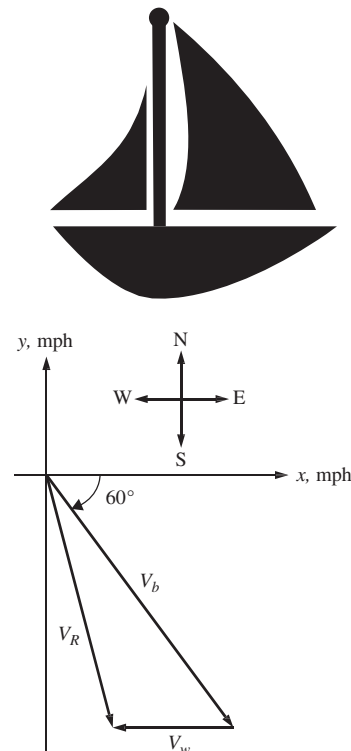

Figure P4.21 Resultant velocity of boat crossing a river.
- 4-21.** A boat moves diagonally across a river at a heading of 60° south of east at a speed of $V_b = 8$ mph. The river flows due west at a speed of $V_w = 3$ mph. The resulting vector diagram for resultant velocity V_R of the boat is shown in Fig. P4.21.